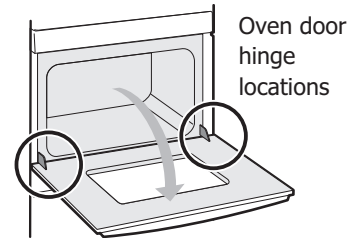

Figure 39: Door hinge location
1. Open oven door completely, horizontal with floor (See Figure 39).
3. Fully open the oven door, horizontal with floor (See Figure 39).